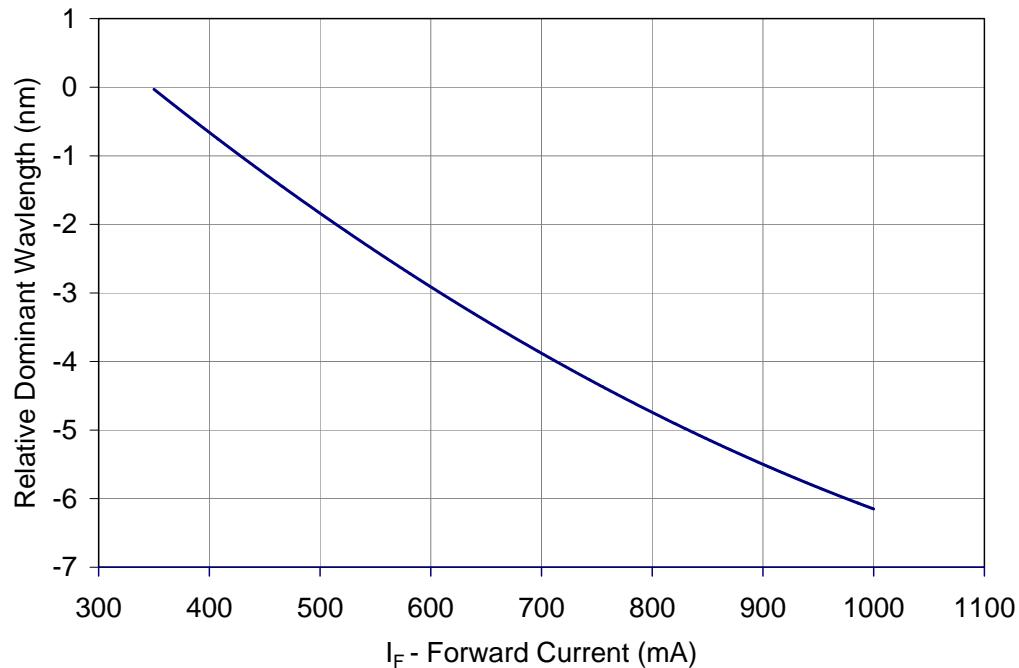

Figure 6: Typical relative dominant wavelength shift vs. forward current @ $T_c = 25^\circ\text{C}$.
3. Refer to Figure 6 for typical dominant wavelength shift over forward current.
2. Refer to Figure 6 for typical dominant wavelength shift over forward current.